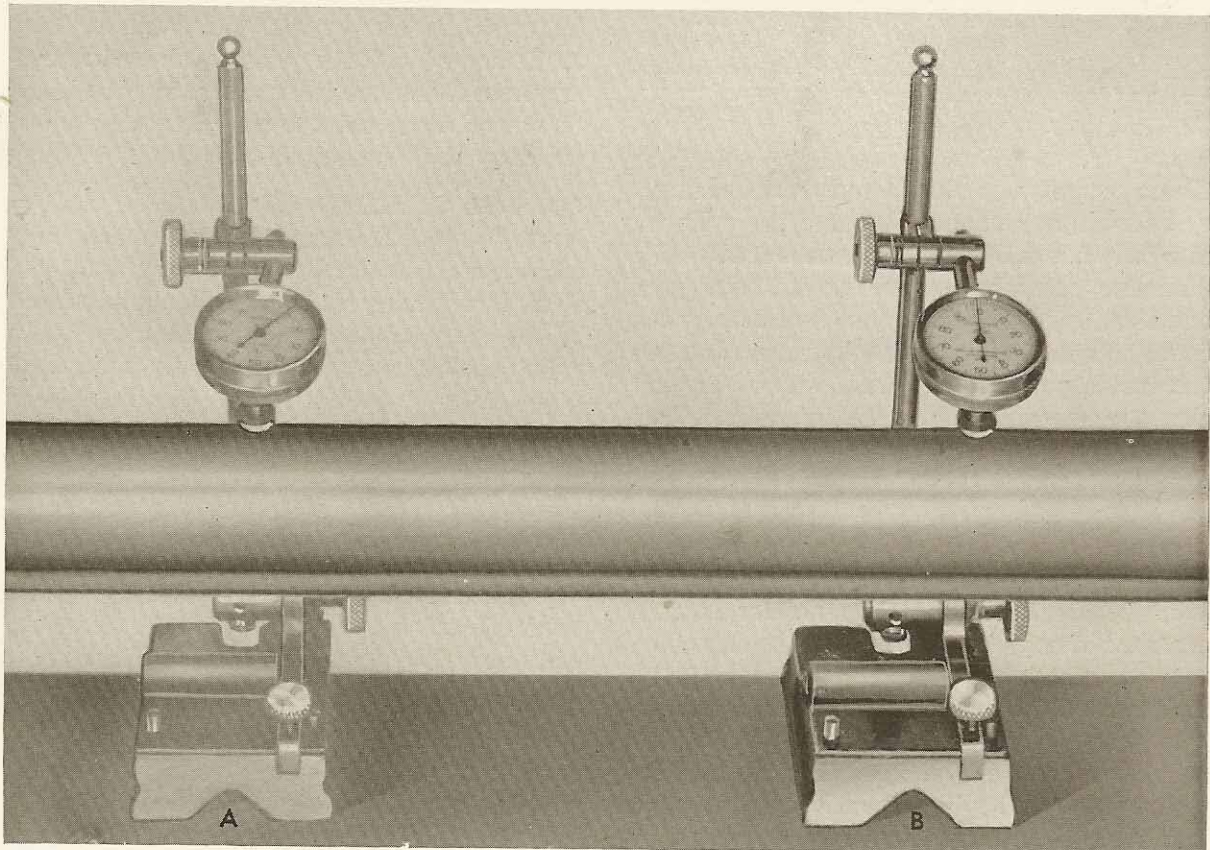

FIGURE 8-8
So you mount the dial indicator as shown at (B) in Figure 8-8, being careful to line the indicator shaft on the line of the diameter of the shaft being checked that is perpendicular to the surface. You move the indicator up until pressure of the shaft turns the pointer one revolution. You then set the pointer exactly at zero on the dial. Then move the indicator to position (A), as shown in phantom, being careful not to permit the indicator mounting to slip and change in height. At (A) the indicator will show whether the shaft is at the same height, or above or below it. In the figure, the indicator shows that the shaft is 0.010 inch higher than in position (B). Whether this is a serious difference will depend upon what the shaft does. If a shaft is correctly distanced from a surface at two points, and is straight, you may assume that it is correctly distanced at all points. If it is out 0.010 inch at points, say, one foot apart, and the shaft is straight, remember that it will be out 0.020 inch in two feet, 0.030 inch at three feet, etc.